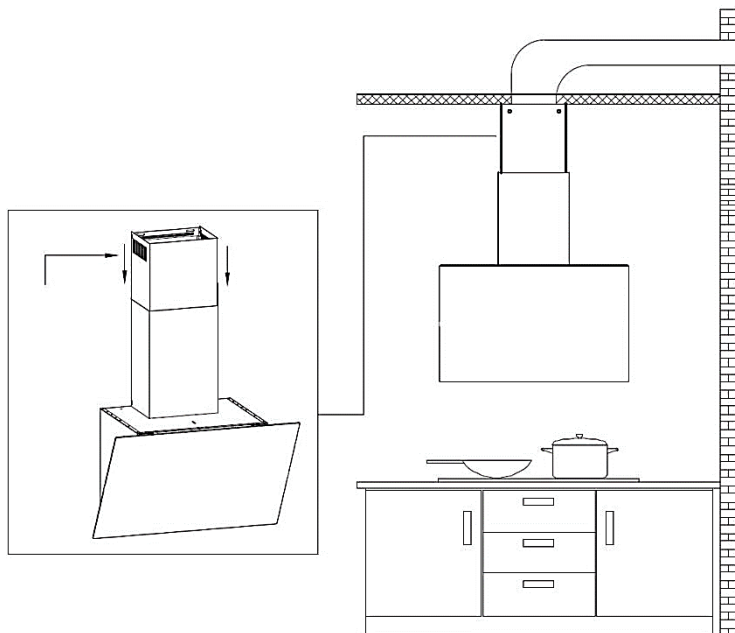

Fig. 16
15. Put the Upper Chimney into the Lower Chimney, and then pulled to the height of the Upper Chimney Bracket. (see Fig. 16)